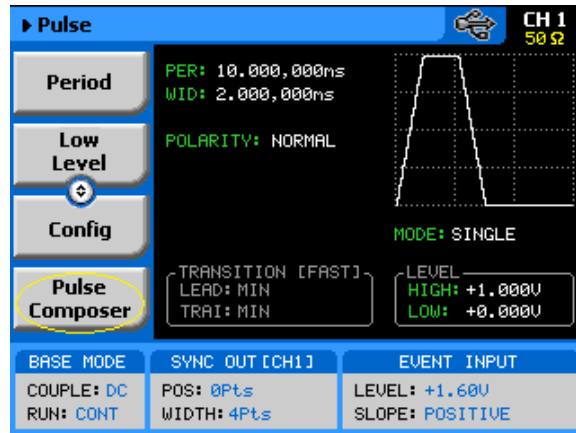

Figure 3-71: Access the Pulse Composer Menus
2. Using the down key, scroll down with the menus to access the Pulse Composer menu tab, as shown in *Figure 3-71*.